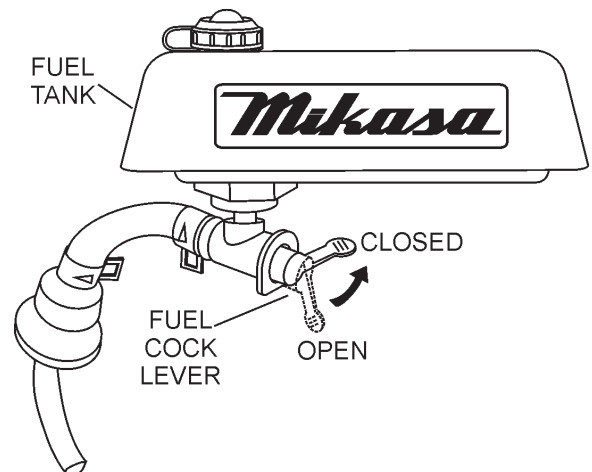

Figure 12. Fuel Shut-OFF Valve (Off Position)
2. Close the **fuel shut-off valve** (Figure 12) by moving the fuel cock lever to the **CLOSED** position.